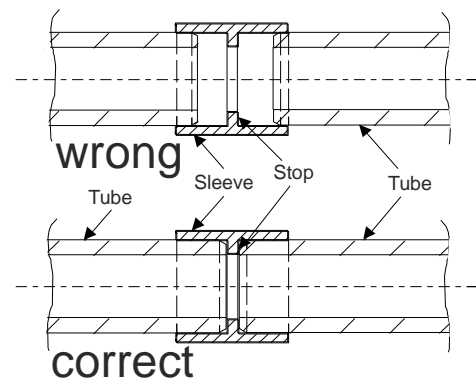

Fig. 36 Assembling the tubes
- The individual tube sections are connected using fittings. Depending on the tube material used, use either the adhesive process described in Sec. 5.3.2 and 5.3.3 or the pressing process described in Sec. 5.3.4. The tubes are pushed into the fittings as far as the stop, Fig. 36.